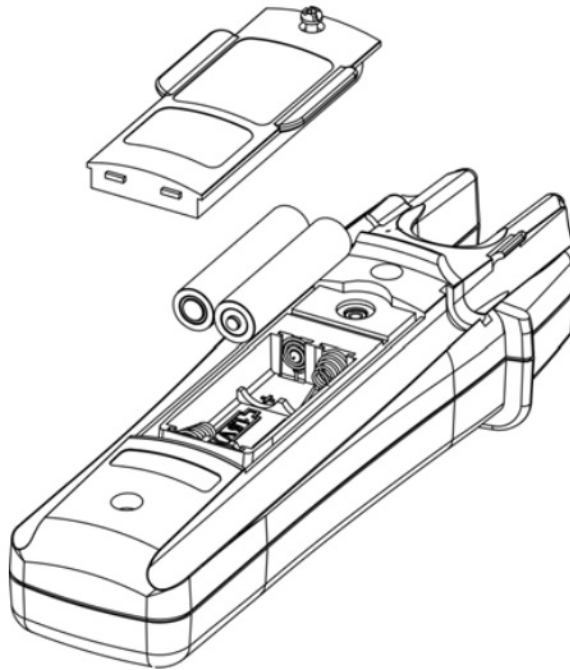

Fig. 8: Taking AC current measurement
3. Remove the screw from the battery cover, and detach the battery covers from the bottom cover (see § Fig. 8)